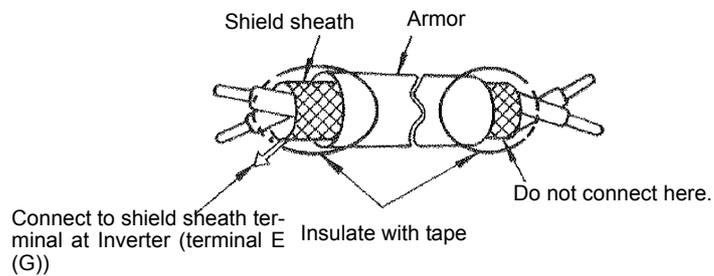

Fig 2.23 Processing the Ends of Shielded Twisted-pair Cables
- Use shielded twisted-pair cables for control circuits to prevent operating faults. Process cable ends as shown in *Fig 2.23*.
- Connect the shield wire to terminal E (G).
- Connect the shield when connecting to a PG. The shield must be connected to prevent operational errors caused by noise. Also, do not use any lines that are more than 100 m long. Refer to *Fig 2.23* for details on connecting the shield.
- Connect the shield to the shield terminal (E).